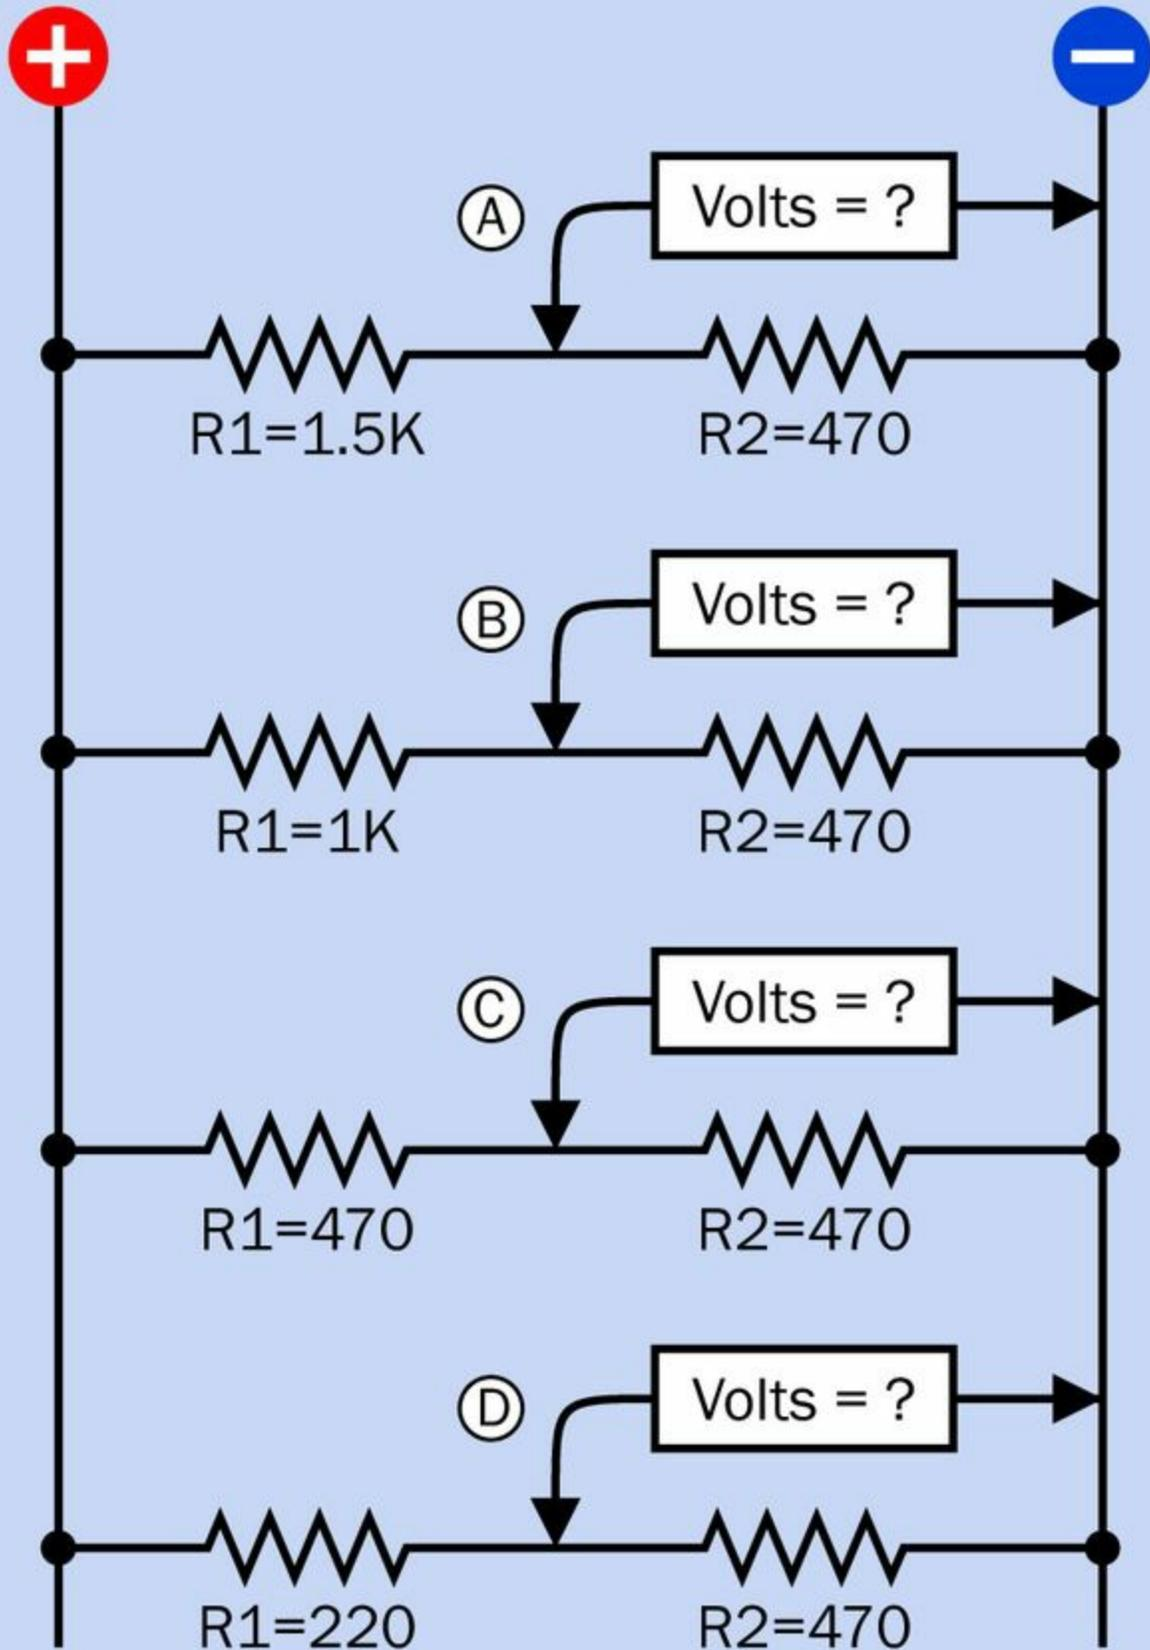

Figure 2-10. The concept of a voltage divider is fundamental in electronics. Make sure that you understand it clearly.
Take a look at **Figure 2-10**. In this schematic, instead of using a transistor in series with a 470Ω resistor, I've used various other resistors. Can you predict the voltages that will be measured at points A, B, C, and D? This is an experiment that you can perform for yourself very quickly. I'll provide the theoretical answers at the end of this section of the book.
- R2 is the value of the resistor (in ohms) on the negative side (as in Figure 2-10).